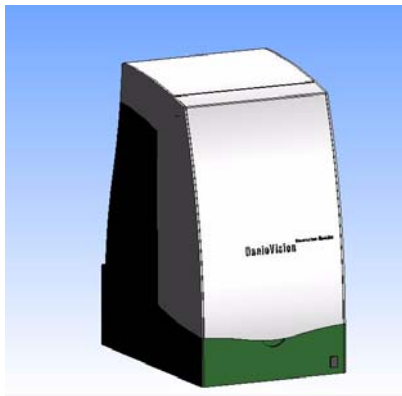

Figure 1 *The DanioVision Observation Chamber DVOC-0050.*
See Figure 1. This chamber contains a transparent holder with backlight that fits an ANSI SBS compatible multi-well microtiter plate, infrared (IR) and white light sources underneath the microtiter plate, and a Gigabit Ethernet (GigE Vision) video camera. The optical design provides a stable and undistorted top view of each well and a controlled and constant environment within the observation chamber.